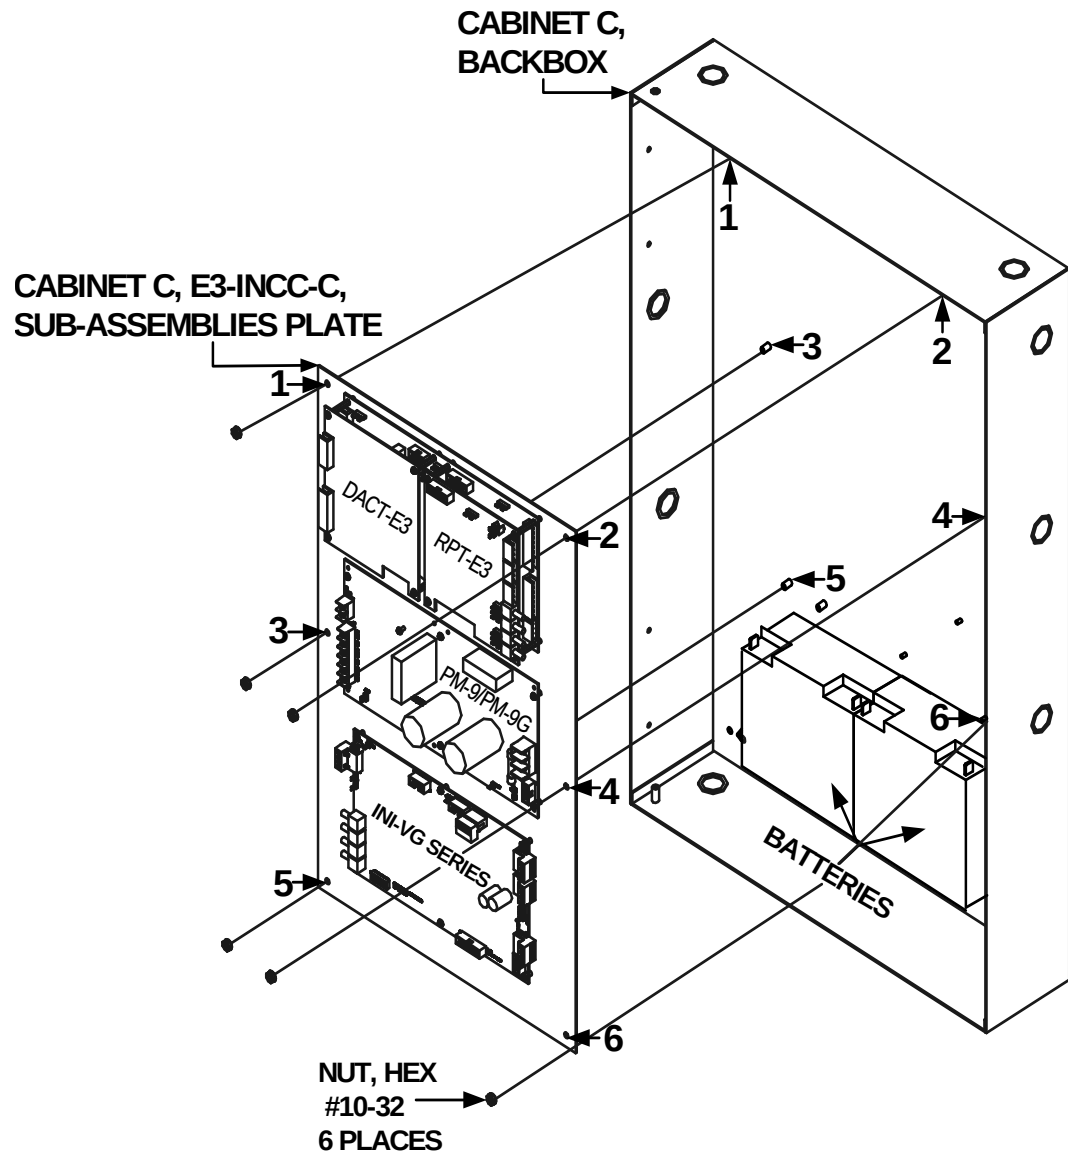

Figure 2.5.9.3.1 Cabinet C, E3-INCC-C Sub-Assembly Plate to the Backbox Installation
1. Mount the first, ILI-MB-E3/ILI95-MB-E3/ANX over the standoffs on the E3-ILI-C plate and secure the eight (8), standoffs, (3/16" hex, #4-40 x 1") in the eight-hole mounting pattern as shown in Location 1 of Figure 2.5.9.4.2.